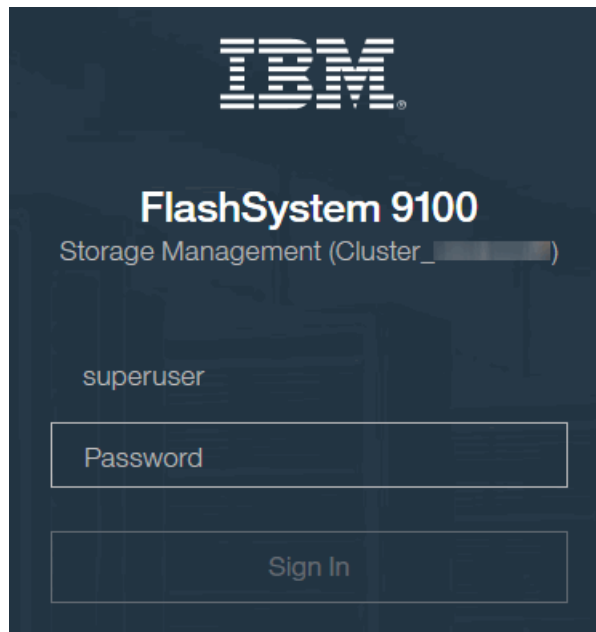

Figure 6-74 FlashSystem 9100 Storage Management login screen
2. The FlashSystem 9100 Storage Management login screen is displayed (Figure 6-74).